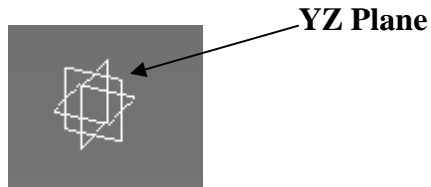

Figure 1.7
- 1.17 Select the YZ Plane (Figure 1.7) and enter the Sketcher Work Bench.
- 1.23 Select the **YZ Plane** reference figure 1.7